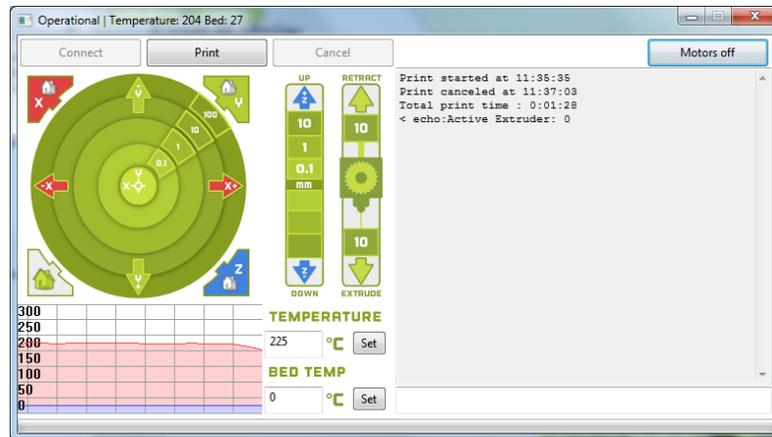

Figure 1. Cura graphical control panel
10. In Cura, click the Control icon. In the graphical control panel (see Figure 1 below), enter 225 for the nozzle temperature, then click the Set button. Enter 0 for the bed temperature, then click the Set button.
13. Click the Print button on the Cura graphical control panel (see Figure 1). The printer will begin printing.